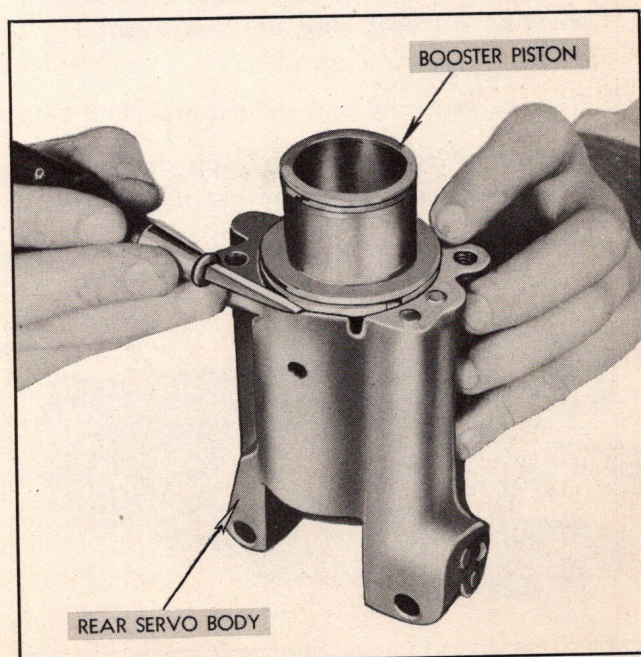

Fig. 285—Installing Booster Piston
4. Install booster piston into servo body. (Fig. 285)